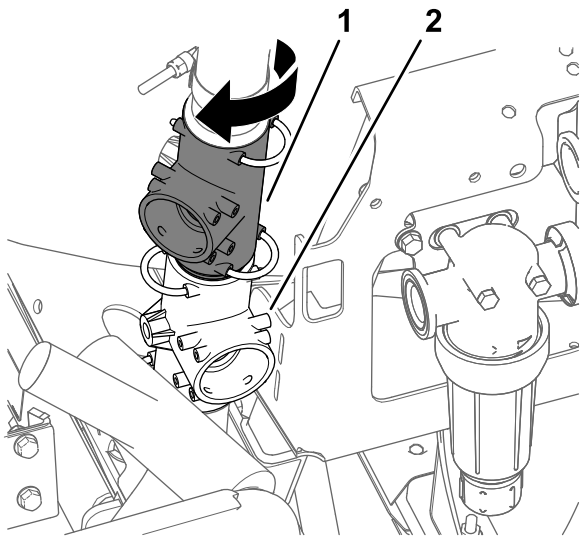

Figure 5
5. Rotate the upper T-fitting approximately 45° clockwise (Figure 5).